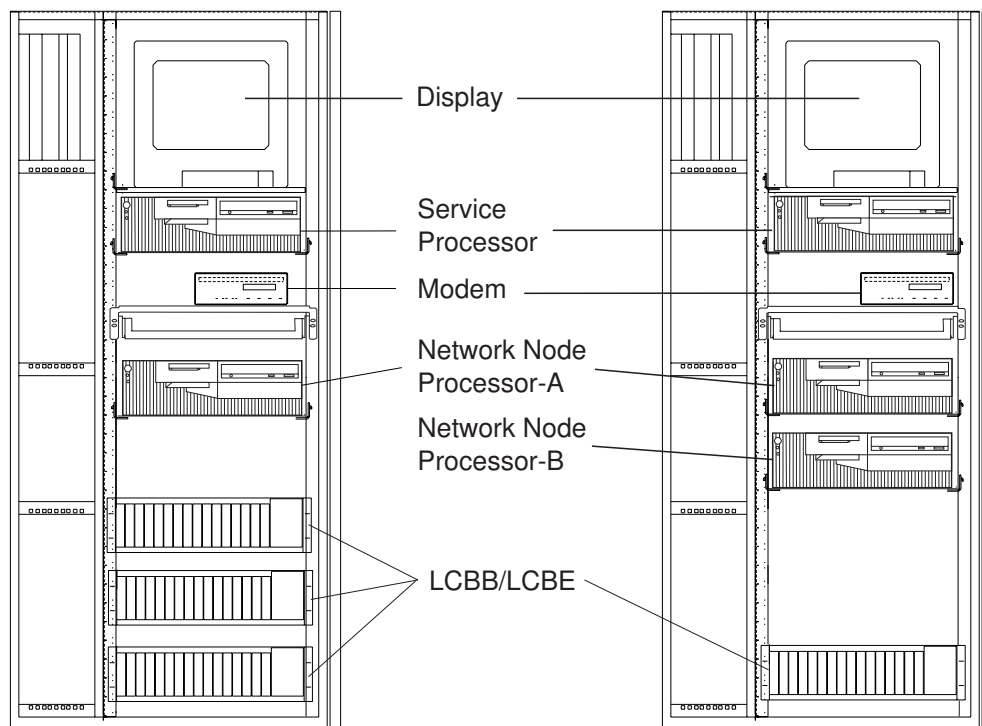
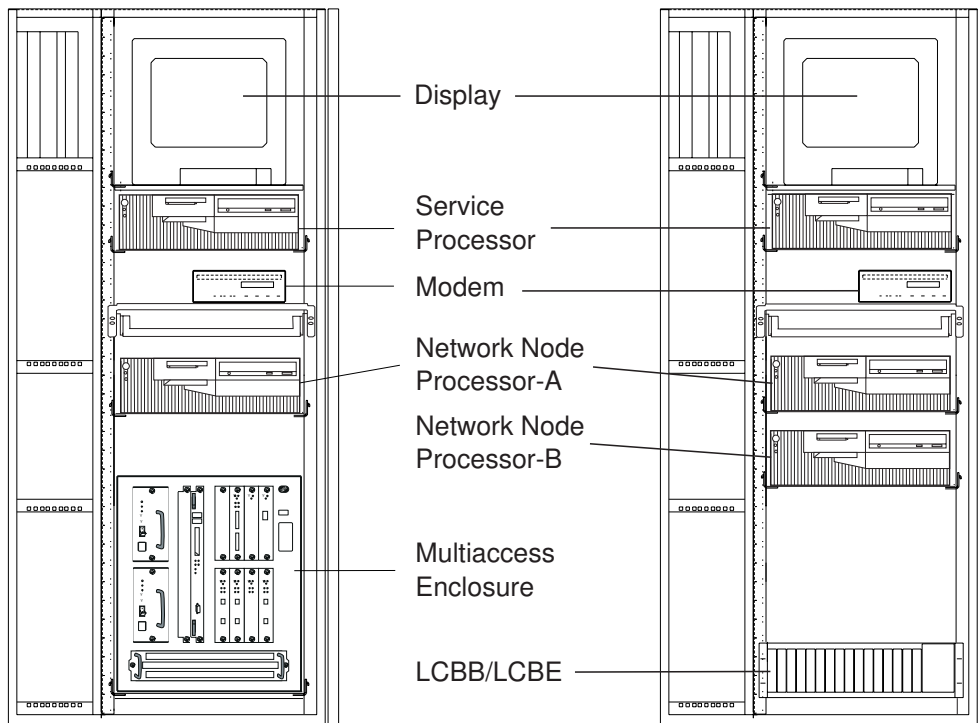
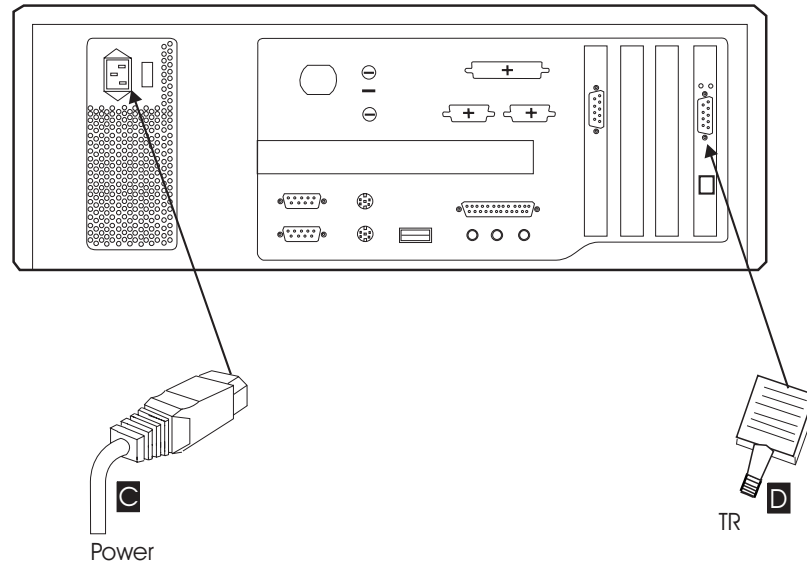

Figure 3. Units Installation in the Controller Expansion (SP and NNP Type 6563 Model 65U)
Figure 4. Units Installation in the Controller Expansion (SP, NNP Type 6563 Model 65U + MAE)
Figure 6. Network Node Processor Cables Connection
- ___ 2. Locate the Network Node Processor. (Refer to Figure 3 on page 9 and Figure 4 on page 10).
- ___ 4. Switch the power **OFF (O)**.
- ___ 5. From the rear side of the Network Node Processor, disconnect the Power cord and the LAN cable (refer to Figure 6).
- ___ 2. From the rear panel of the Network Node Processor, reconnect the Power cord and the LAN cable refer to Figure 6 on page 14 and Figure 5 on page 10 to connect the NNP to the ac outlet distribution box.